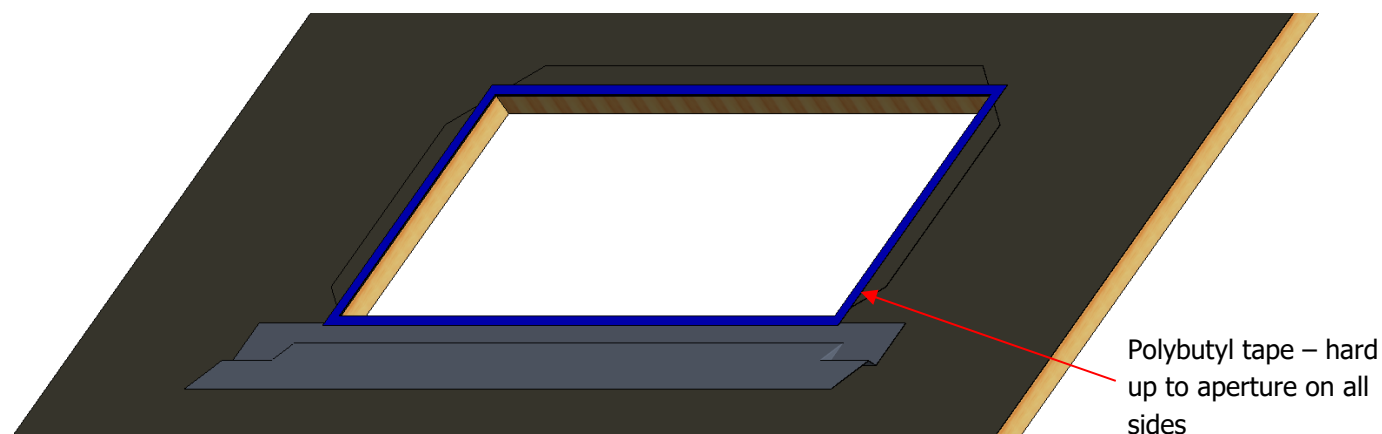

Fig. 4a – Continuous loop of polybutyl tape applied on top of underlay
- Lay a continuous strip of polybutyl tape (supplied) onto the underlay hard up against the internal aperture (fig. 4a)